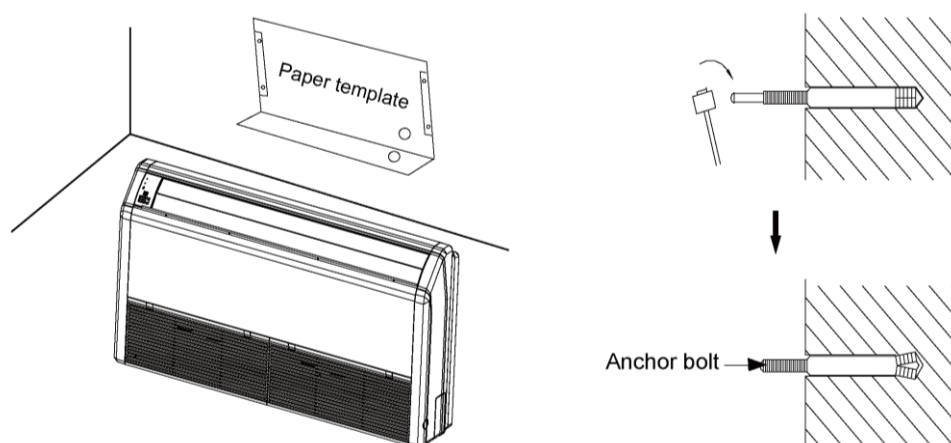

Fig.4.1.2.1
- (1) Determine the location of the hanger through the paper template, and then remove the paper template, as shown in Fig. 4.1.2.1left.
- (2) Insert the anchor bolts into the drilled holes, and drive the pins completely into the anchor bolts with a hammer, as shown in Fig. 4.1.2.1 right.
- (3) Remove the right and left side panels. , as shown in Fig. 4.1.2.2.
- (4) Put the hanger bolt into the clasp of the indoor unit and tighten screws on the hanger